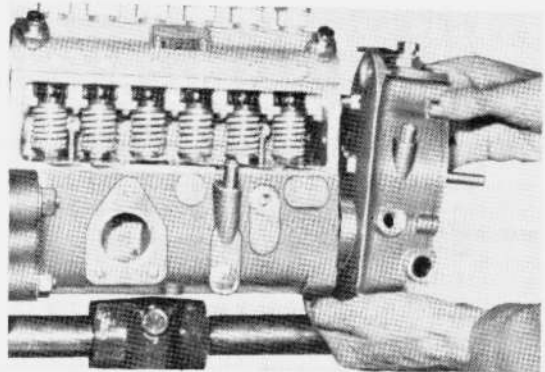

Fig. 3-167 Governor Housing Removal
Insert the tappet inserts of the special tool onto the pump unit tappets, and by removing the six screws securing the governor as per Fig. 3-167, the governor housing (77) can be removed from the pump body.